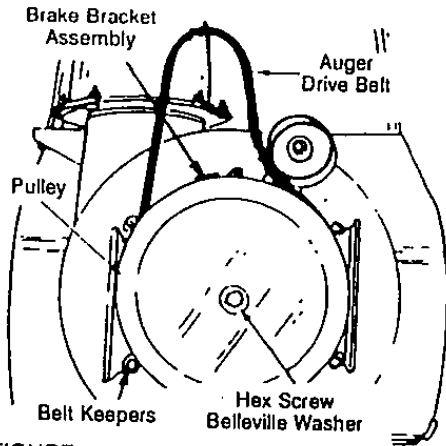

FIGURE 17
- Using a 1/2" wrench remove the hex screw and belleville washer from the centre of the pulley on the auger housing. Lift the brake bracket assembly out of the pulley groove and remove the pulley. See figure 17. Be careful not to lose the key.